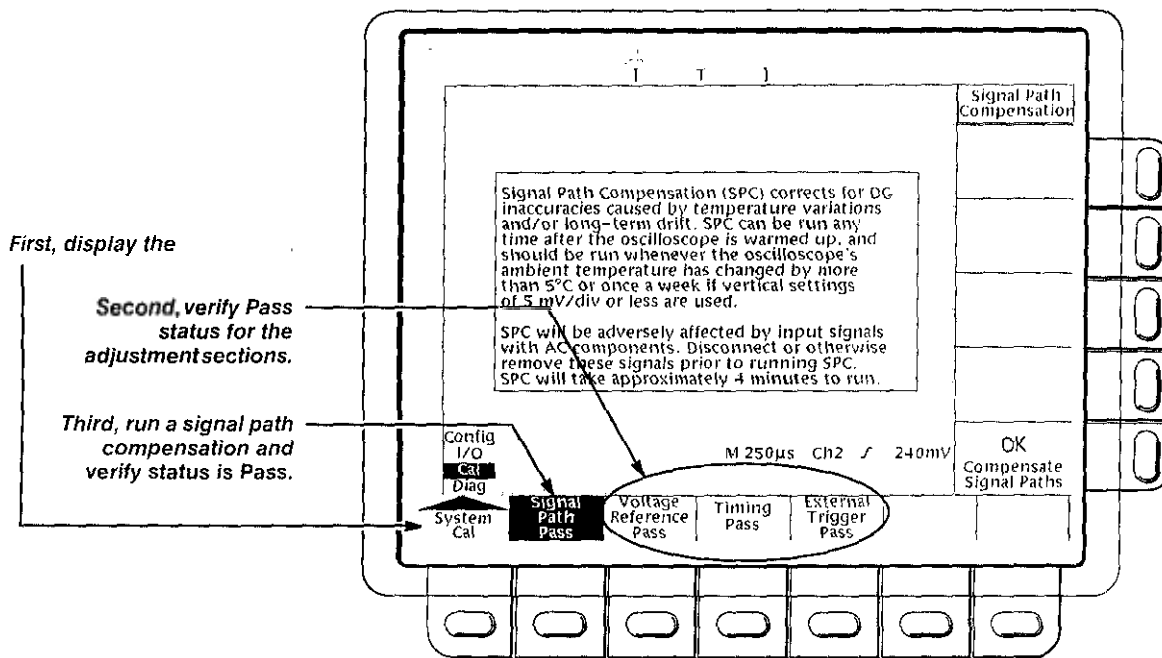

Figure 6-2: Verifying Adjustments and Signal Path Compensation
5. Check that the word **Pass** appears in the main menu under the **Voltage Reference**, **Timing**, and **Ext Trig** menu labels. (See Figure 6-2.) If any of the labels read **Fail**, the instrument has failed the self test. Proceed immediately to the system calibration procedure on page 7-2.
7. Check that the word **Pass** appears under **Signal Path** in the main menu. (See Figure 6-2.) If **Pass** does not appear, the instrument has failed the performance verification; return it to Tektronix for servicing.